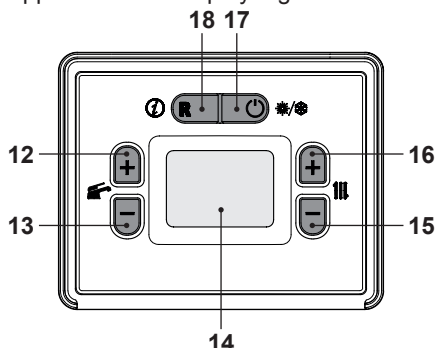

Fig. 2.9
- Press the key 17 until the  symbol appears on the display Fig. 2.9.
The output temperature of C.H. water can be adjusted by pressing keys 15 (reduce) and 16 (increase) (Fig. 2.9) from a minimum of about 25°C to a maximum of about 85°C or from a minimum of about 50°C to a maximum of about 80°C or from a minimum of about 25°C to a maximum of about 55°C (see "Selecting the heating temperature set" on page 65). Press one of the two keys once to display the "set" value. Press again to access the modification.
However, if the ambient temperature is not comfortable, the flow temperature of the heating system can be adjusted by $\pm 15^{\circ}\text{C}$ by pressing on keys 15 (reduce) and 16 (increase) (Fig. 2.9).
The temperature of the D.H.W. can be adjusted by pressing keys 12 (increase) and 13 (reduce) (Fig. 2.9) from a minimum of about 30°C to a maximum of about 60°C .